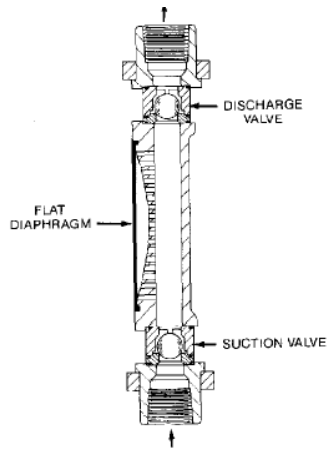

Fig. 3
2.2.1 Standard Flat Diaphragm Reagent Head Assembly - Figure 3